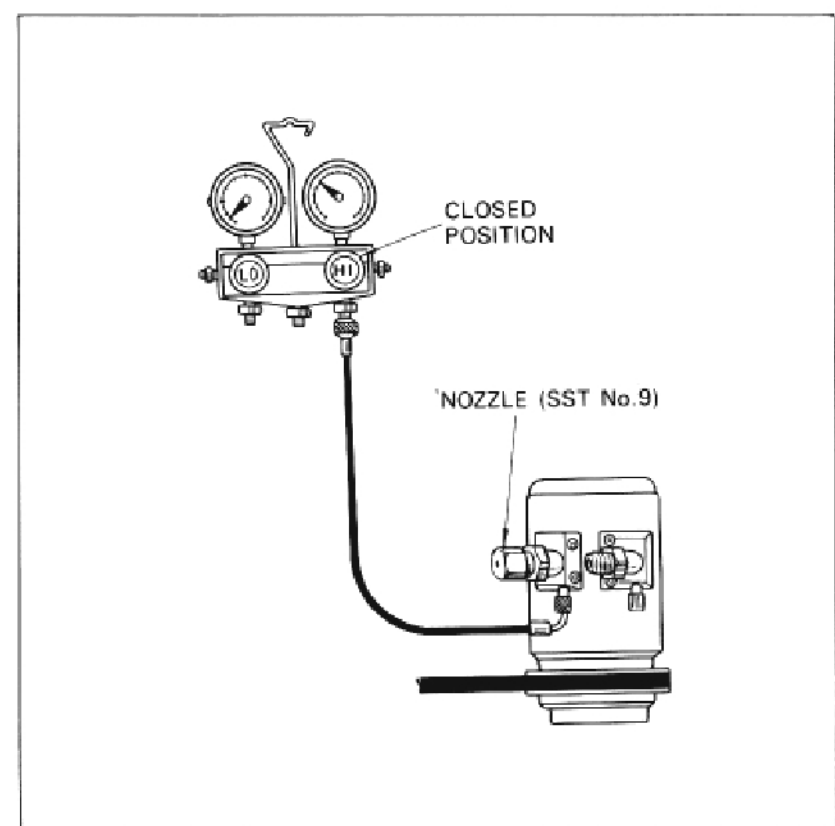

Fig. 2
See Fig. 2.
- C) Start the compressor up to the revolution range shown in Fig. 2, and measure compressor rpm with tachometer.